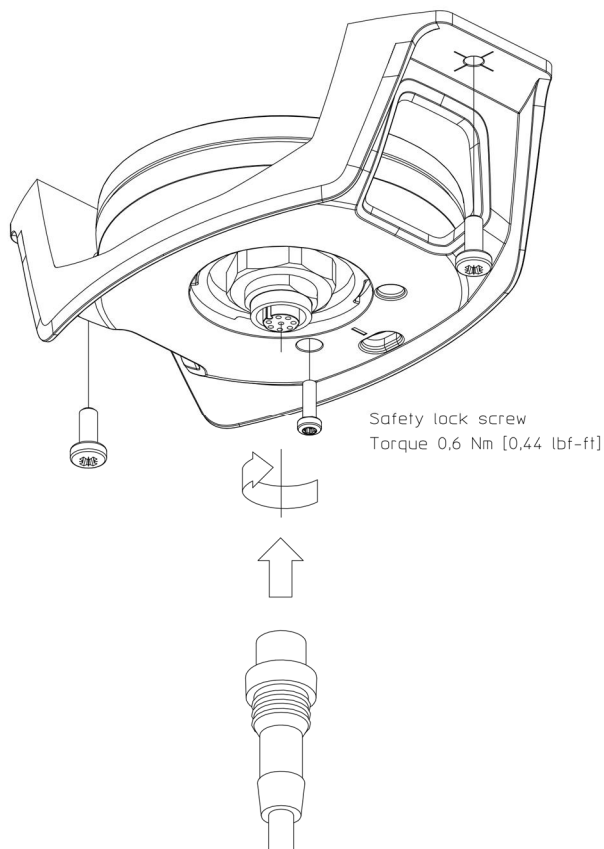

FIGURE 27: ROOF MOUNT INSTALLATION STEP 6 (FASTEN SCREWS AND CONNECT THE COMMUNICATION CABLE)
Step 6: Use the two self-cutting stainless screws to mount the Roof Mount against the roof. Secure the LT-300 GNSS Receiver and Roof Mount with the safety lock screw as illustrated in Figure 27. Connect the communication cable.